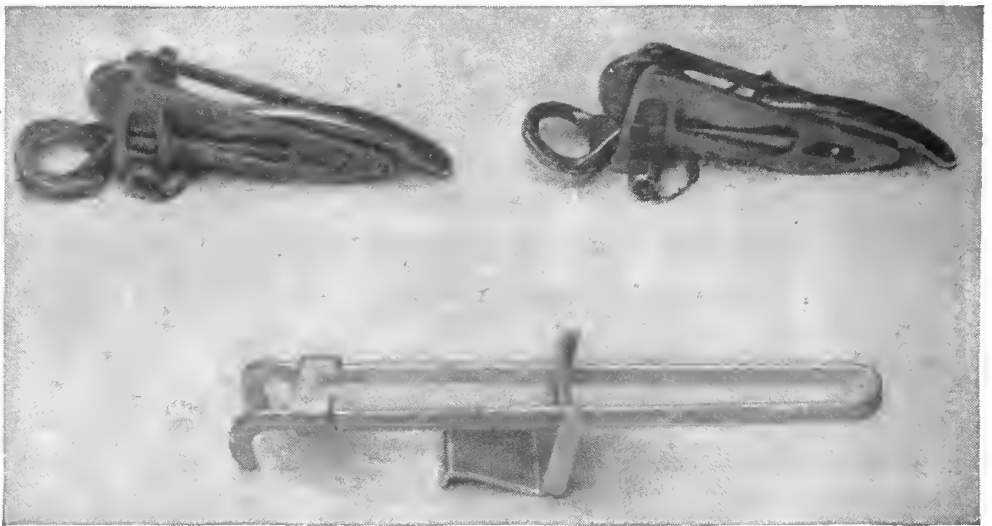
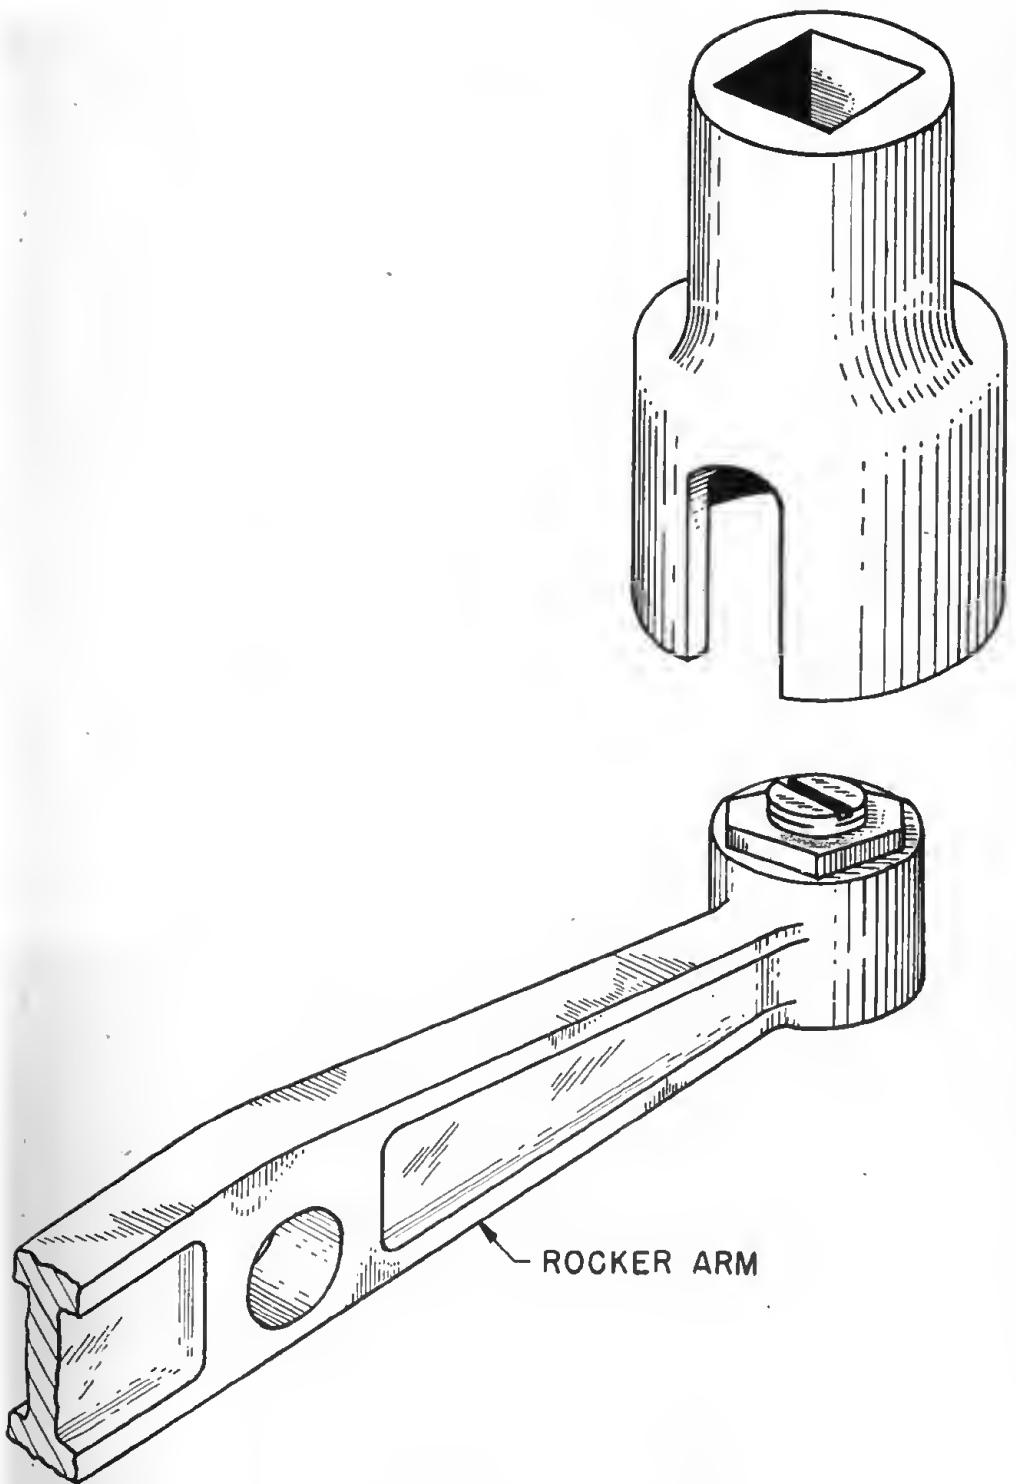

Figure 31. Valve-spring depressors.
Figure 32. Valve-spring depressors.
(2) The wrench is used when adjusting valve clearances. The wrench is fitted over the adjusting screw and the locknut is loosened. The handle which turns the locknut is then held stationary and the adjusting-screw handle turned clockwise or counterclockwise to bring the valve clearance within the specified tolerance. The adjusting-screw handle is then held stationary and the locknut tightened.
k. VALVE-SPRING DEPRESSOR. (1) There are several types of valve-spring depressors (also called valve-spring compressors). Three of the different types are shown in figure 31. They are used to compress the valve springs when inserting or removing the valve-spring split locks.
(2) Valve springs are very strong. If the depressor slips while it is being used, a painful injury is likely to result. Therefore, the mechanic should make certain the valve-spring depressor is fitted properly when he is using it.
l. ROCKER-ARM DEPRESSOR. (1) The rocker-arm depressor is shaped like a large socket with a notch milled in one side. The notch fits over the rocker arm. The depressor is used to depress the valve spring and rocker arm when removing a push rod and push-rod cover. (See fig. 32.)